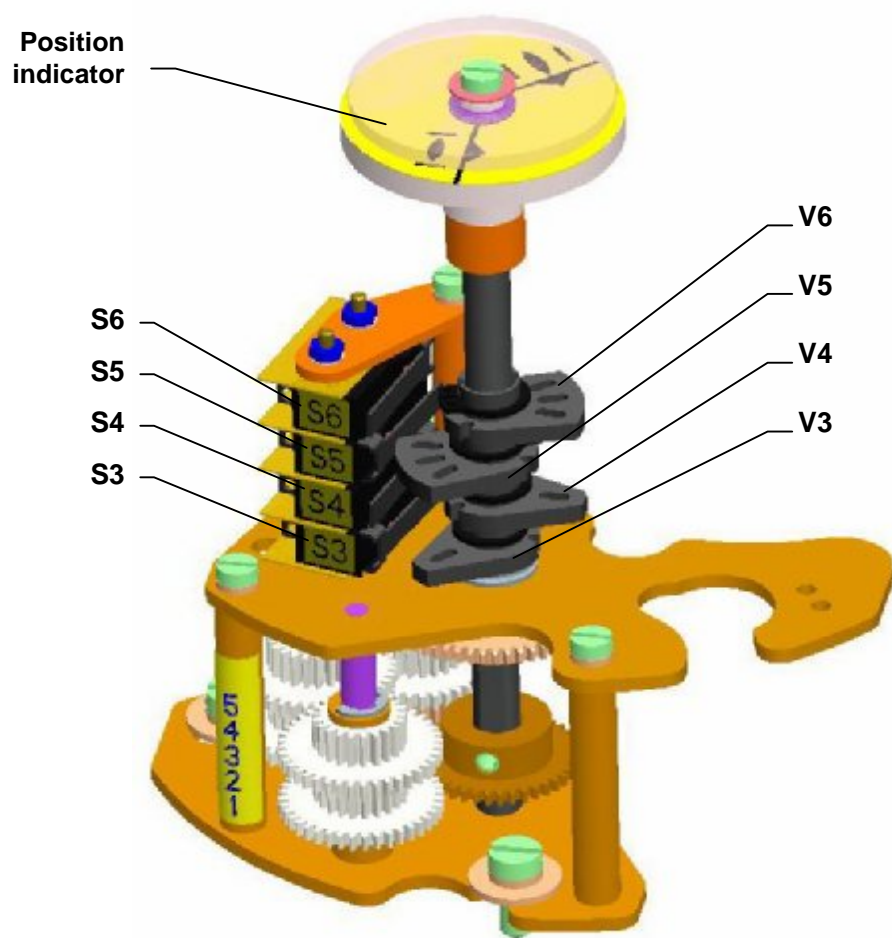

Fig.3a
**UL 0 (Fig.3a):**
Proceed as follows to adjust, align and reset the limit and signaling switches (Fig.3a).